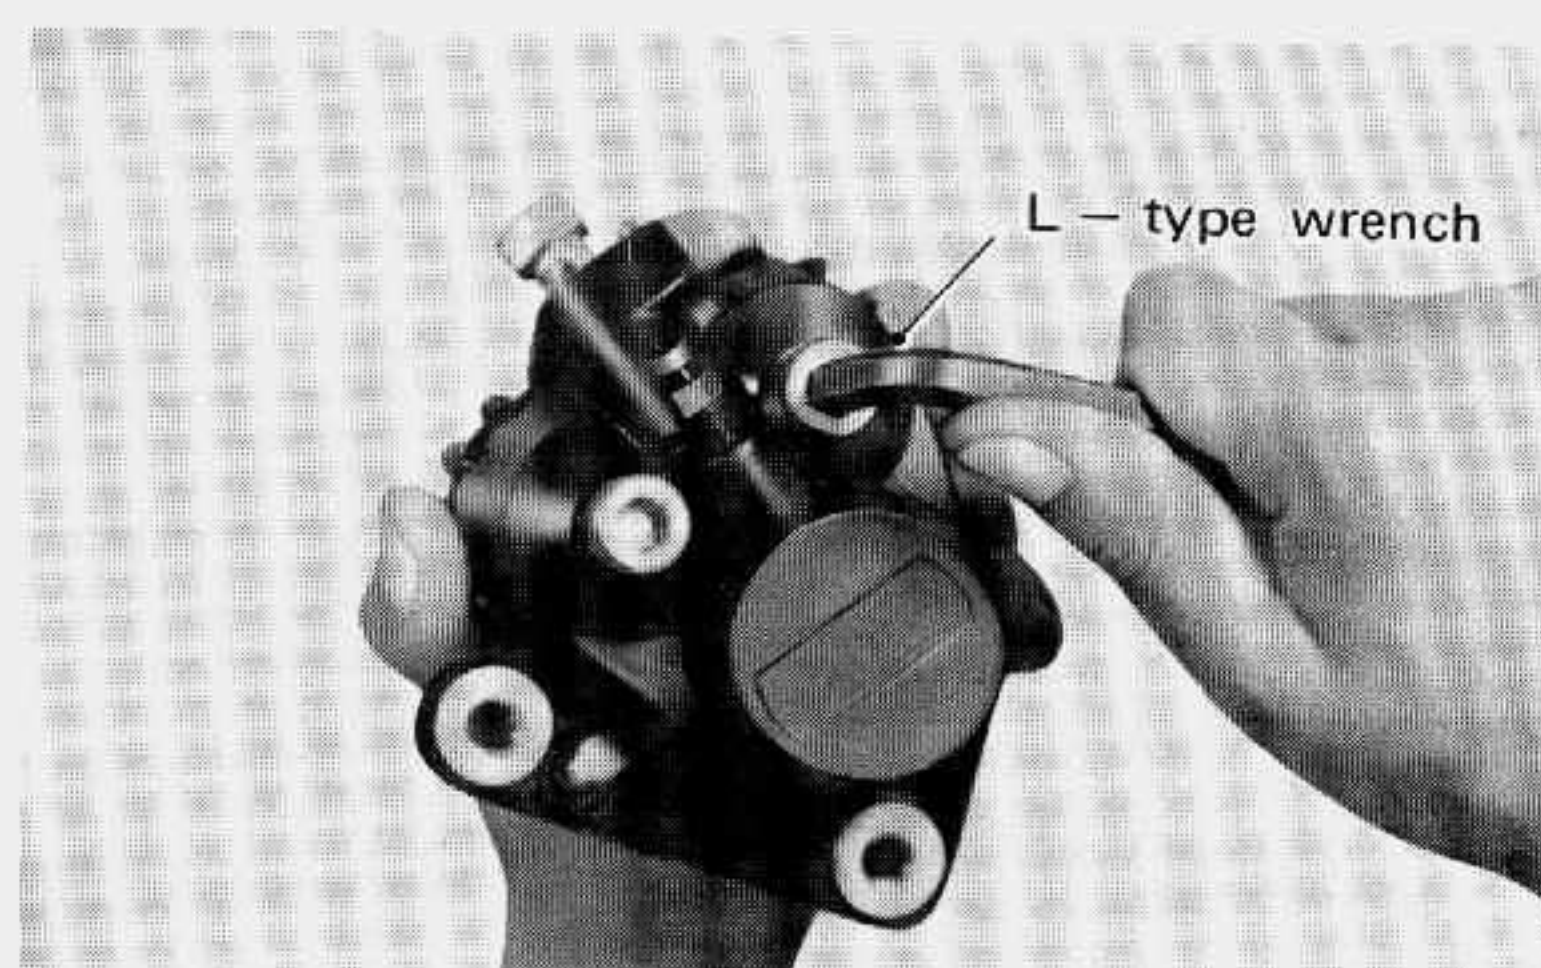

Fig. 8-2-22.
- a) Unscrew the caliper axle bolts with a special tool (8 mm hexagon L-type wrench 09900-06904) and separate the inner caliper body from the outer body as shown in Fig. 8-2-22.